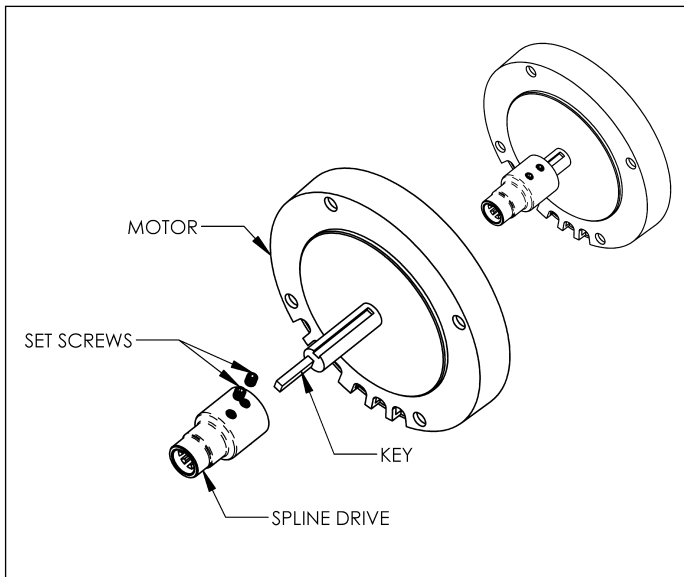

Figure 3 - Type A Motor Shaft Coupler
1. Two styles of motor to pump shaft couplers are manufactured but only one is shipped with each pump. See Figures 3 & 4 to identify which coupler you have.
4. Align the keyways of motorshaft and coupling, then install the key (See Figure 3 or 4). Slide the drive coupling onto the motor shaft as far as it will go.